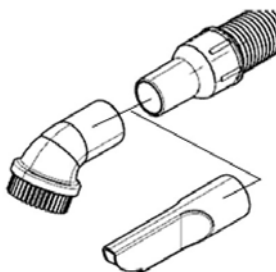

Fig. 9: Mounting the floor nozzle
Step 6: Connect the suction tube to the extension or floor nozzle (Fig.9) or other desired brush. Turn the suction tube to make a tight connection.